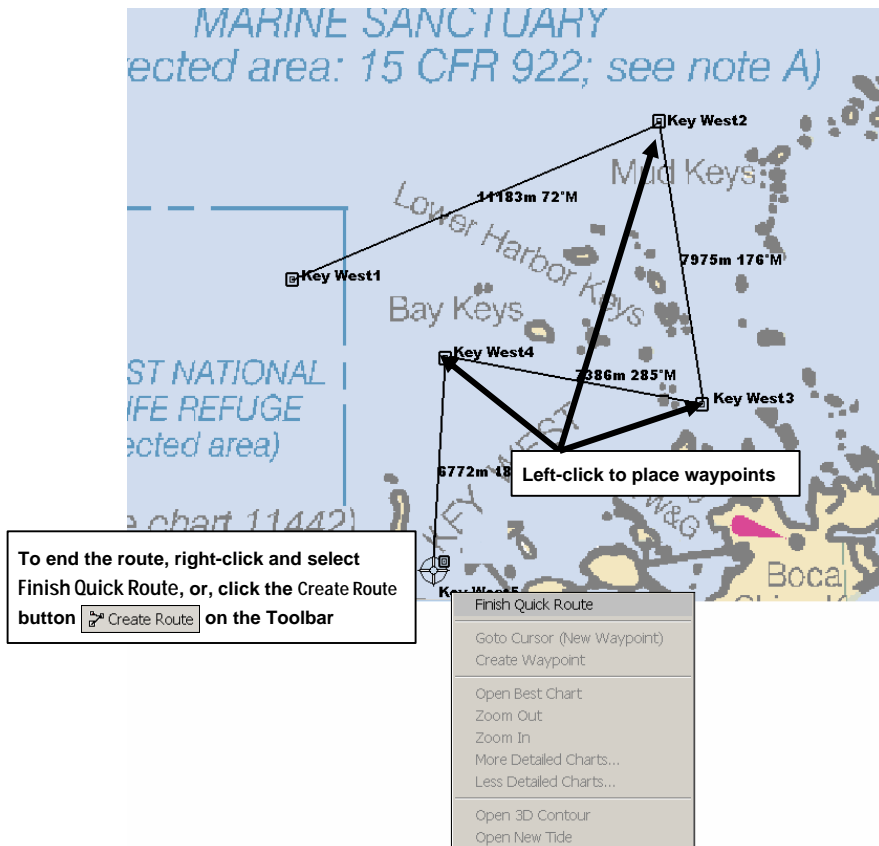

Figure 4-9. Completing a Route
The route name along with the range and bearing of each leg is displayed between each waypoint (Figure 4-9).
5. As shown in Figure 4-9, when you reach the end of the route, right-click and select **Finish Quick Route**, or just click the **Create Route** button  on the toolbar.